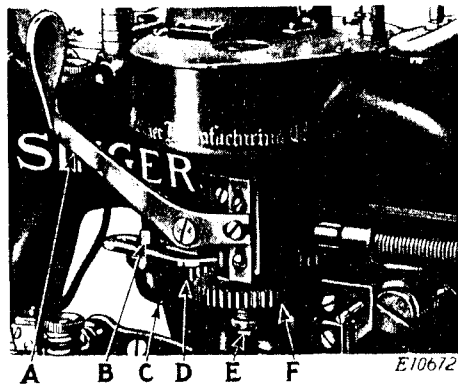
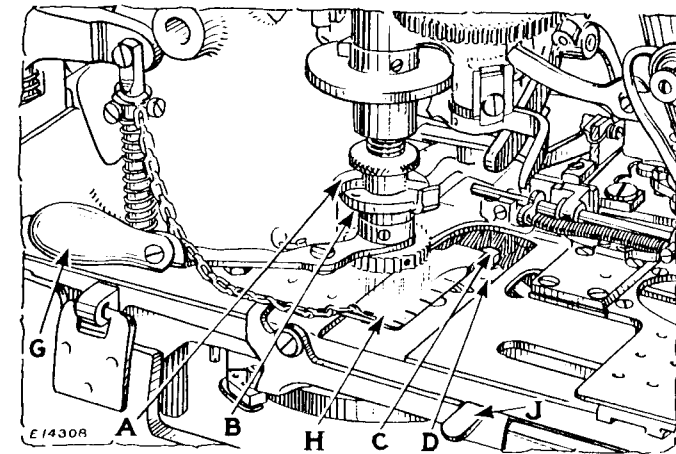

Fig. 15. Mechanism for Disengaging Stitch Regulating Gear
Fig. 16. Showing How to Regulate Length of Tack
Press down the stop lever (J, Fig. 16) and the machine will immediately stop with the needle at its highest point. Then with the right hand push the stitch gear disengaging lever (A, Fig. 15) backward to disengage the stitch regulating gear (F, Fig. 15) and while holding the lever (A) backward, operate the hand ratchet lever (G, Fig. 16) with the left hand until the work clamps are moved to the desired position.
To reengage the stitch regulating gear (F), release the disengaging lever (A, Fig. 15) and operate the machine slowly by means of the hand ratchet lever (G, Fig. 16) until the slot in the stitch regulating gear engages the driving pin in the shaft.
CAUTION: Under no circumstances can the machine be hand ratcheted unless the stitch regulating gear (F, Fig. 15) is disen-
gaged. When changing the stitch regulating gear, be sure that the gear slides freely on the shaft and clamping nut sleeve (E, Fig. 15).
Remove the slide from the left side of the bed of the machine. The gauge (H, Fig. 16), furnished with the machine, is marked
according to the length of tack that can be made by the machine. The gauge (H) is also marked with the letters X, A, B, C and D which correspond to similar letters stamped on the collar (B, Fig. 16) of machines fitted with upper thread trimmers, for positioning the needle thread operating cam.
Loosen the nut (C, Fig. 16) and place the gauge in the slide-way as shown in Fig. 16, having the number on the gauge for the desired length of tack opposite the line in the slideway. Then move the regulating lever (D, Fig. 16) until the sleeve under the nut (C) rests against the downwardly projecting part of the gauge, and tighten the nut (C). Now, raise the cam (A, Fig. 16) and turn it until the pin enters either of the holes X, A, B, C or D, in the collar (B) according to the letter indicated on the gauge opposite the length of tack for which the machine is being adjusted. Then replace the slide in the bed of the machine.
The number of stitches in the tack is controlled by the stitch regulating gear (F, Fig. 15) at the right hand side of the machine. When it is desired to change the number of stitches in the tack, it will only be necessary to change the stitch regulating gear. To remove this gear, loosen the screw (B, Fig. 15) and swing the bracket (C, Fig. 15) with the large gear (D, Fig. 15) out of mesh with the stitch regulating gear (F). Then remove the nut (E, Fig. 15) and remove the stitch regulating gear (F) from its shaft.
Having selected the gear desired, place it in position on its shaft and securely fasten the nut (E, Fig. 15) below it. Swing back the bracket (C, Fig. 15) as far as it will go so as to bring the large gear (D, Fig. 15) into mesh with the stitch regulating gear (F, Fig. 15), then securely tighten the screw (B, Fig. 15).